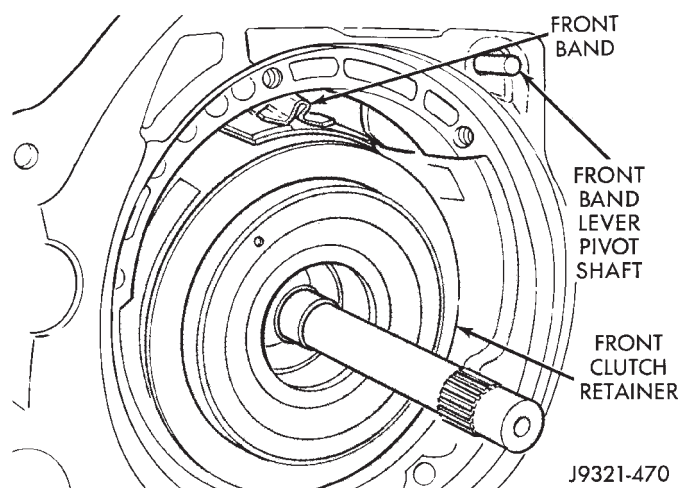

Fig. 174 Installing Front Band And Reaction Pin
(27) Slide front band over front clutch retainer (Fig. 174).
(28) Insert front band lever pivot shaft part way into case (Fig. 174).